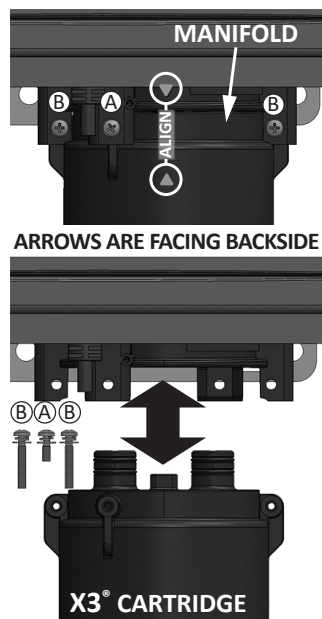

Figure 20 - X3® Cartridge Installation
2 Locate the three (3) screws provided in the hardware bag on the top of the water heater carton. Set the one **(A)** screw (M4-12mm) and two **(B)** screws (M4-25mm) aside in a safe place (Figure 20).
NOTICE: The X3® cartridge is keyed to only install in one direction. Align the **▲** on the X3® cartridge with the **▼** on the manifold (arrows will be back facing for TI & TO series heaters). When inserting the X3® cartridge, push up until the screw holes align. Some resistance is normal. See Figure 20 for reference.
4 Remove the two **(B)** screws and the one **(A)** screw securing the X3® Cartridge to the manifold located on the underside of the water heater cabinet. Set the screws aside in a safe place for re-installation. Note the order of the screws when removing them. Reference Figure 20.